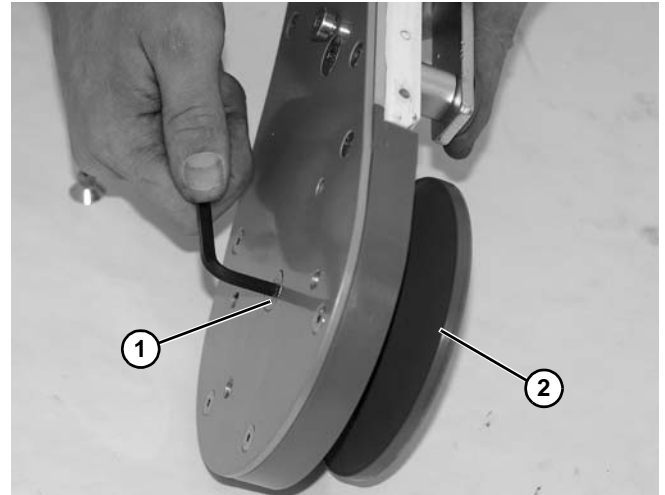

Figure 115
5. Remove flat head screw (**Figure 115, item 1**) and remove idler pulley (**Figure 115, item 2**) from idler head plate assembly.